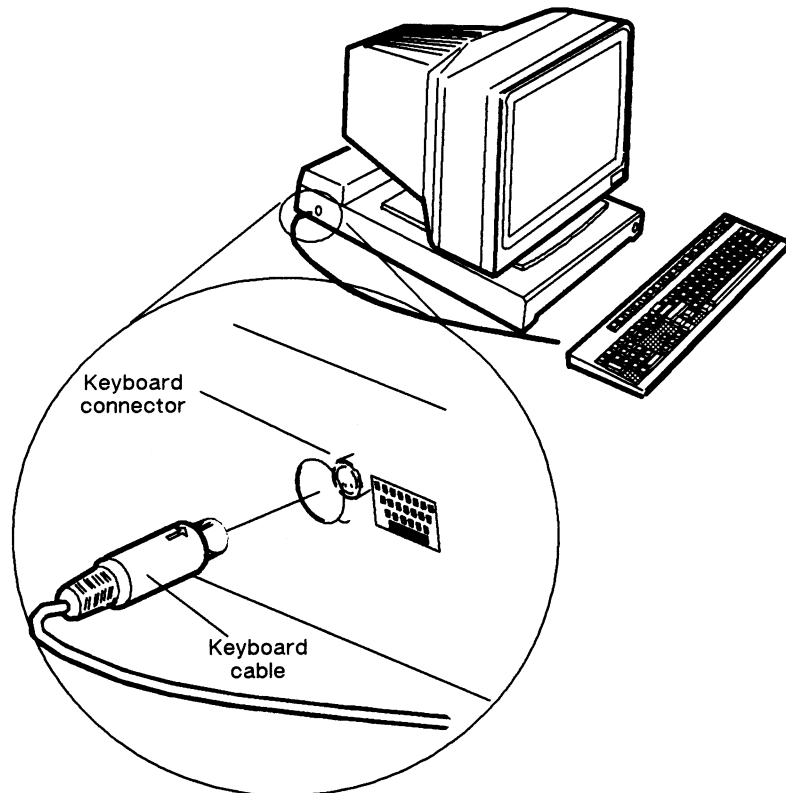

Figure 2-6 *Plugging the Keyboard Cable into the Keyboard Connector*
2. Plug the keyboard cable into the keyboard connector located on the side of the computer unit as shown in Figure 2-6.